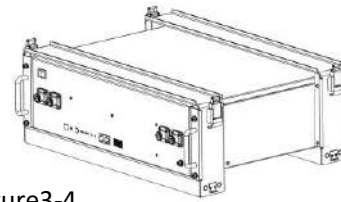

Figure3-4
1. Place the B3 and brackets as shown in the figure3-4, and insert the B3 into the brackets. Use 4 screws to fix the module on the front bracket.